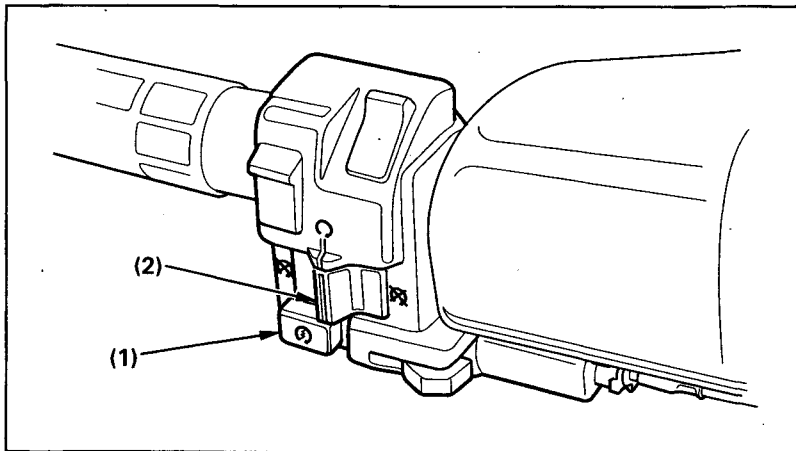

Fig. 2-8
The starter button (Fig. 2-8) is below the engine stop switch. To start the engine, press the starter button (1), with the transmission in neutral, the ignition switch I (ON) and the engine stop switch (2) at O (RUN).